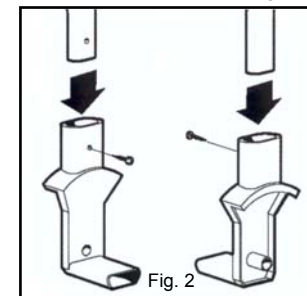

Fig. 2
- Insert the two (2) legs into the support brackets and secure with the two (2) screws provided. (Fig. 2)